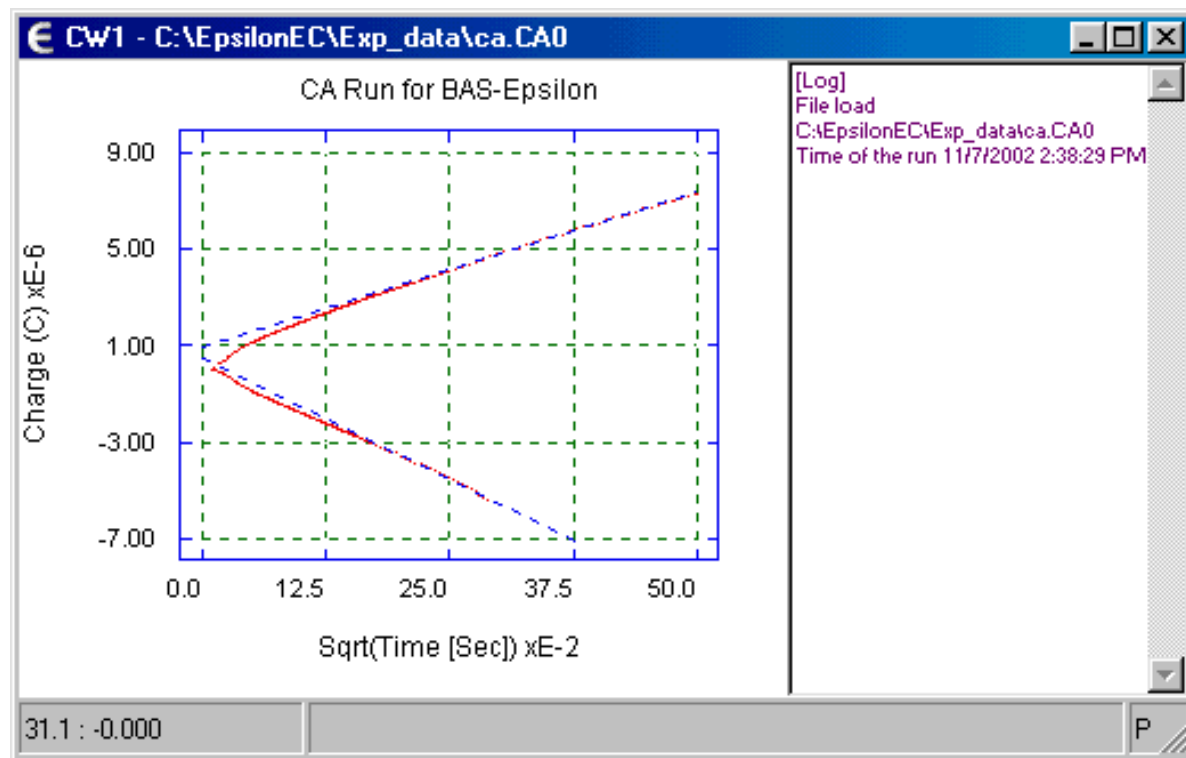
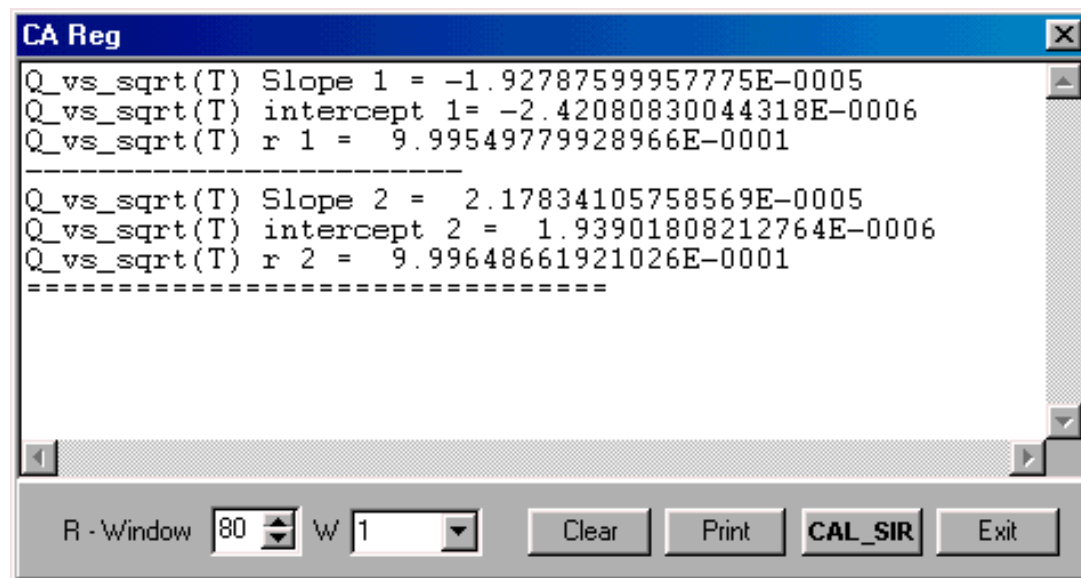

Figure 15. Q vs. sqrt(T) plot for Chronoamperometry/Chronocoulometry.
Figure 16. Calculation of slope and intercept of linear plot.
15. The data from a **Chronoamperometry/Chronocoulometry** experiment can be plotted in a number of different formats, which can be selected using **Select Graph** in the pop-up menu in the **Chronoamperometry/Chronocoulometry** experiment window. The **Q vs. \sqrt{t}** plot is shown in **Figure 15**.
16. The epsilon software can calculate the slope and intercept of the linear **Q vs sqrt(T)** plot when it is displayed. Selecting **Data - Calculate CA-SIR** from the pop-up menu generates the information box shown in **Figure 16**. The lines used for the linear fitting are the dashed blue lines in **Figure 15** (note that the first 20% of the data points are not used in the calculation, due to interference from the charging current and other experimental artifacts).